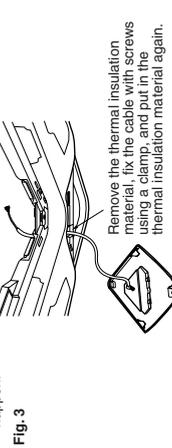

Fig. 3
3. The thermal insulation material is stuffed in the square hole provided to pass through cables of the panel, so take it off once and pass the cable out of the sensor of wireless remote controller through the grille. Using a clamp, fix the cable with screws and then be sure to stuff again the removed thermal insulation material as original. (Fig. 3)
4. After cabling according to "How to perform cabling of sensor units", remain the cable length enough to remove the sensor unit and fix it with screws using a clamp. (Fig. 3)